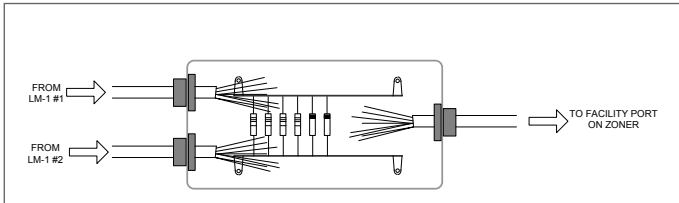

Fig. 6
2. Refer to Fig. 6. Drill two holes on one end of the box and one in the opposite end. Fit the cable glands. Fit the tagstrip (or similar) to the box base as necessary. The arrangement shown in Fig. 6 is by way